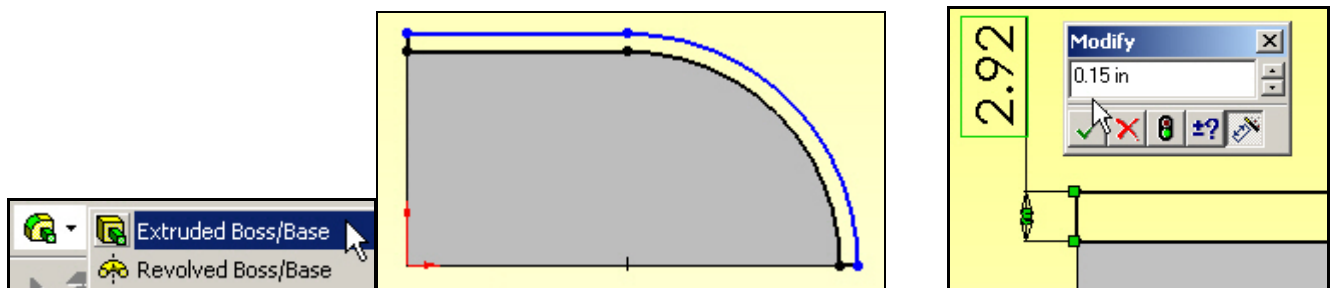

Figure 8 Sketch and then dimension the thin wall
3. Then set the actual dimension of the wall thickness as 0.15 to uniquely define the wall area to be extruded (Figure 8).